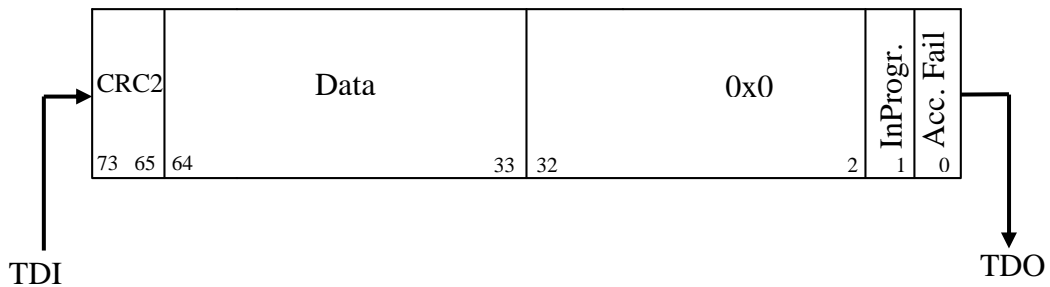

Figure 10: WISHBONE Scan Chain (data shifted out)
- ✓ CRC2 is shifted out (Figure 10: WISHBONE Scan Chain (data shifted out)). It is calculated from the address, the R/W that were shifted in, data that is shifted out (data read from register) when a read operation is in progress, or from a delayed CRC1 when a write operation is in progress.